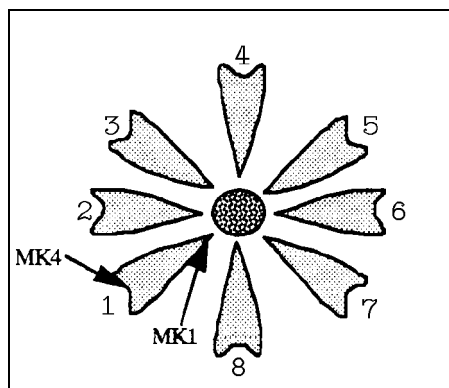

Figure 5-25
In our example, enter the Mk1 at the location shown at position 1 in Figure 5-25. This will put the point of the petal at that location.
4. Repeat the recall symbol sequence at the other locations where you want to insert the stored symbol. Remember to enter the Mk1 in the appropriate recall symbol box; then enter the Mk1, Mk4 combination to insert the symbol at the proper location and orientation you want them in the design (see locations 2 through 8 in Figure 5-25).